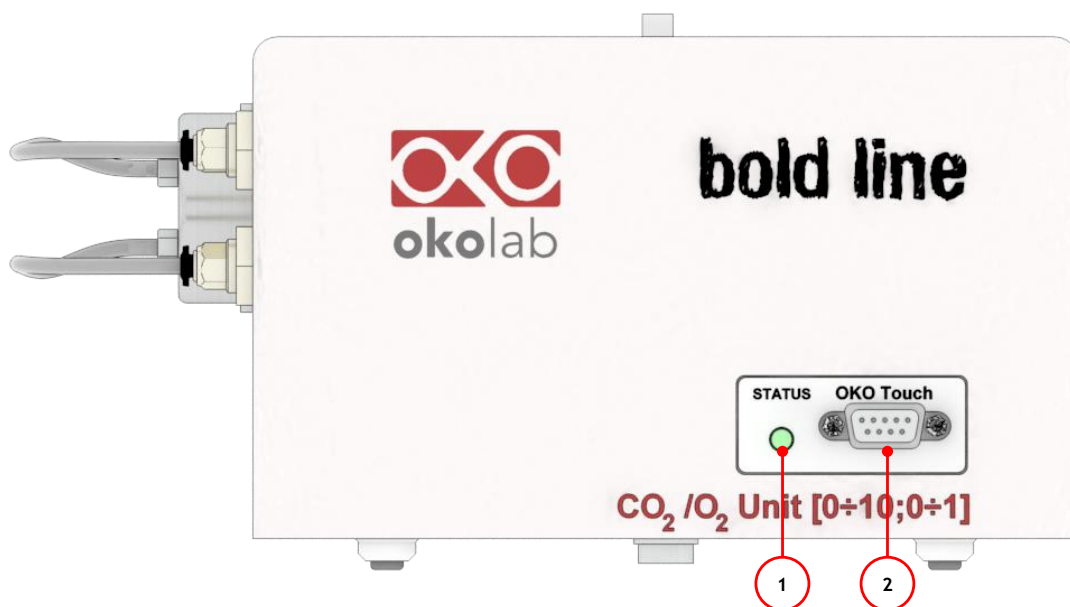

Figure 4. Gas Controller Front Panel Overview.
Figure 4 illustrates CO2-O2-UNIT-BL [0-10; 0-1] front panel:
9. To switch CO2-O2-UNIT-BL [0-10; 0-1] on use the power button on OKO-TOUCH. The Status LED (1 in Figure 4) on the front of CO2-O2-UNIT-BL [0-10; 0-1] will turn green.